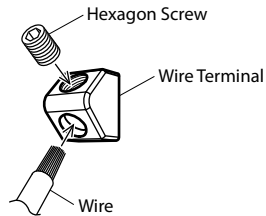

Fig. 9
- Tighten the set screw with the hexagon wrench (included) to secure the lead. (Fig. 9)